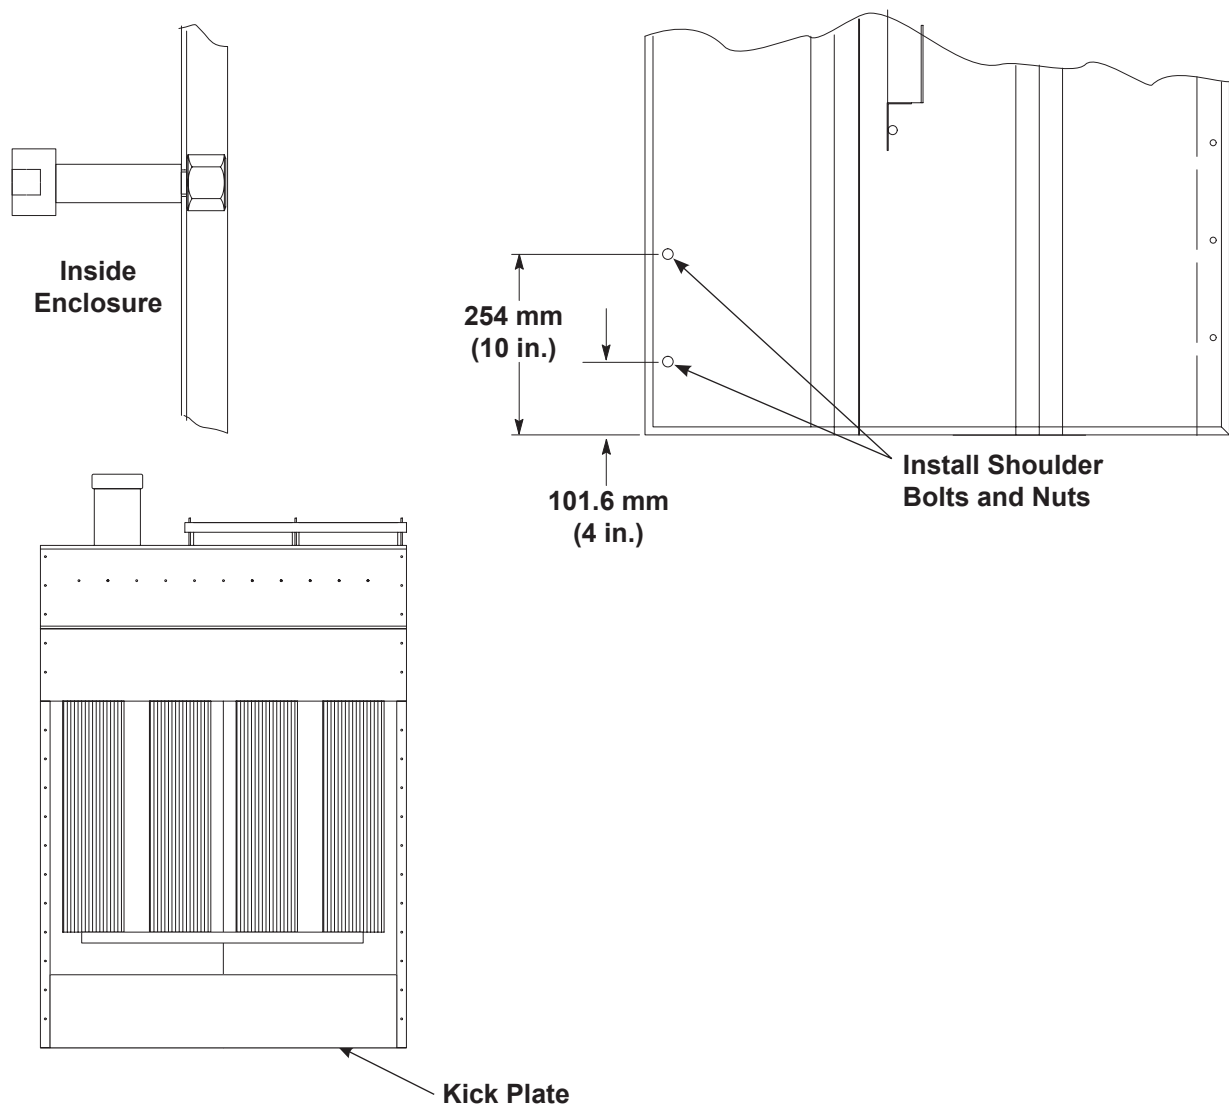

Figure 19 Kick Plate Installation
1. See Figure 19. Place the kick plate in place inside the collector enclosure, with the outside of the kick plate flush with the outside edge of the side walls.